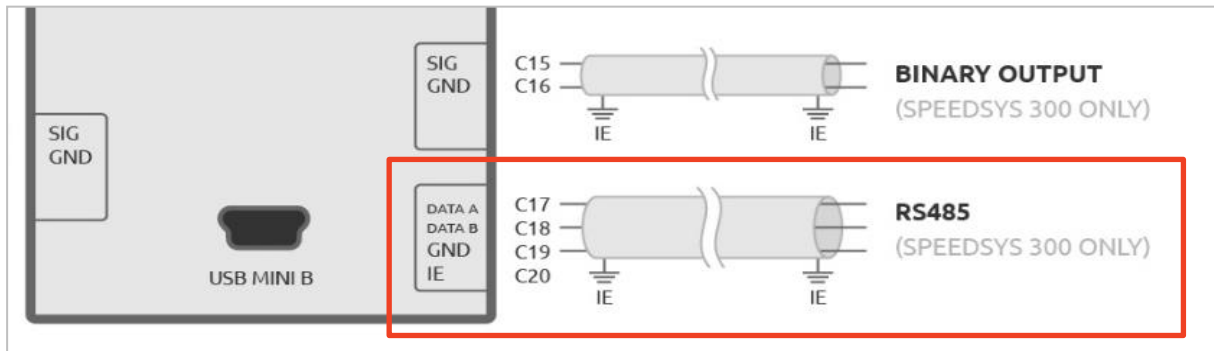

Figure 3: the Modbus RS-485 connection requires a shielded cable with grounding to IE on both sides.
All connections must be installed with shielded cables. Connect all cable shields in the non-explosive area to instrument earth (IE) at both sides of the cable, including the Modbus RS-485 connection, as is shown in Figure 3. This might require connecting a IE terminal of another connector to IE to ground the complete IE plane of the device.